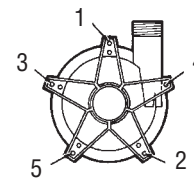

Figure 2
your right hand the "fins" (marked 3 and 5 in figure 2) with your left hand. Carefully align the wet end with the motor adapter and allow the magnets to pull it into place.
Align mounting holes and install 5 Phillips pan head screws (item 7) and hex nuts (item 9). Hand tighten screws to 30 in-lbs. (3.34 N-m) of torque using the pattern shown in figure 2.
3. Install the two-piece shipping plug into the suction of the housing. Remove the 5 Phillips pan head screws and hex nuts (items 7 and 9).
4. Securely clamp or hold motor in place. Remove wet end by gripping the discharge with your right hand while gripping the two fins marked 3 and 5 in figure 2. With a tight grip, pull the wet end straight out of the motor adapter using one quick motion.
5. To disassemble wet end, remove the 4 Phillips head screws (item 13).
6. Remove impeller housing (item 1) from barrier (item 3), and pull out the impeller assembly (item 2). Remove o-ring (item 6). To remove drive magnet assembly (item 5), insert a 3/16" hex wrench in the access hole on motor adapter top and loosen the 2 set screws (item 5A). Remove the drive assembly from the motor shaft.